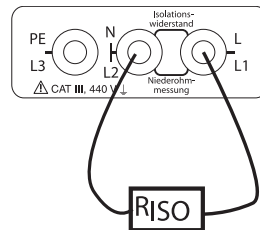

Figure 5.2.3 Insulation test connection
► Now connect both test leads to the UUT; please refer to Figure 5.2.3 for connection..